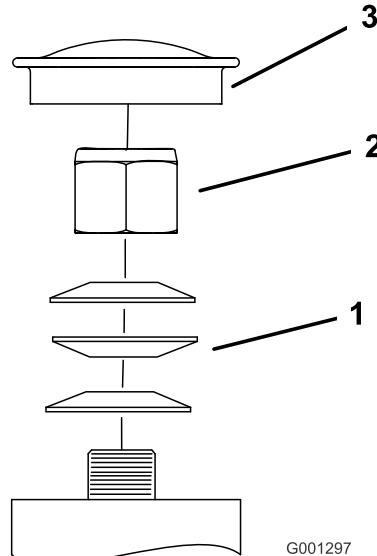
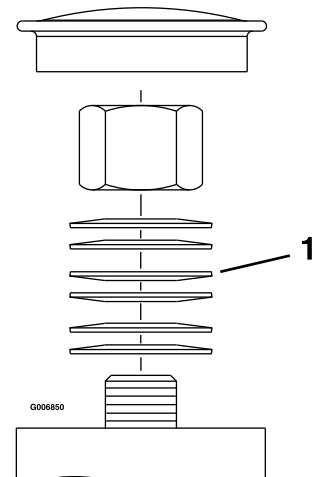

Figure 51
Figure 52
3. Remove the dust cap from the caster and tighten the locknut until the spring washers are flat, then back off 1/4 turn to properly set the pre-load on the bearings (Figure 51 and Figure 52).
**Important:** Make sure that the spring washers are installed correctly as shown in Figure 51 and Figure 52.